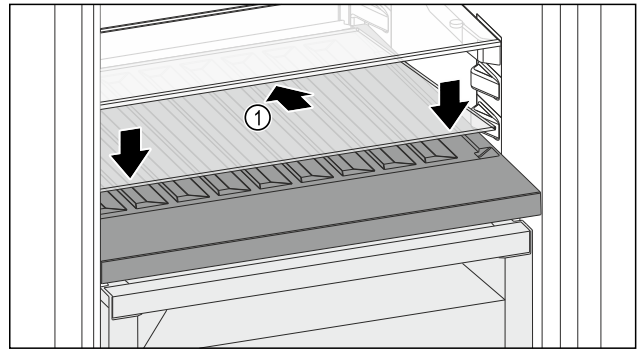

Fig. 159
- ▶ Place the glass shelf Fig. 159 (1) at an angle, tilted back and down.
- ▶ Lower the glass shelf Fig. 159 (1) at the front.